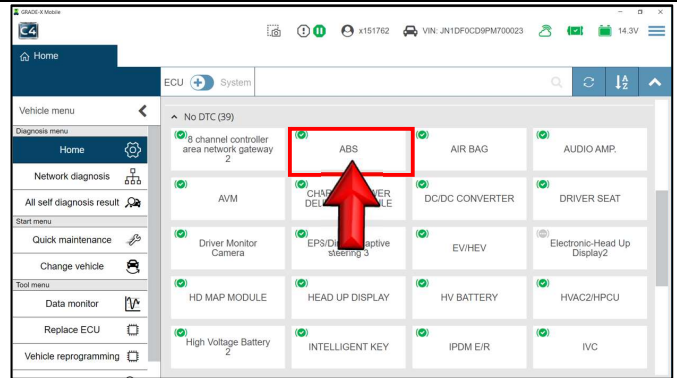

Figure 26
24. Locate and select **ABS**. (Figure 26)